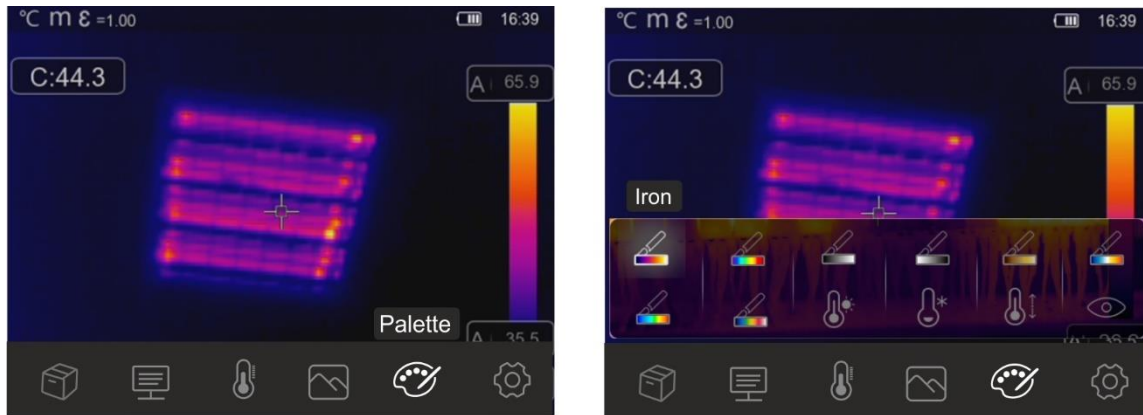

Fig. 39: Selection of color palettes and isotherm lines' functions
2. Touch the icon “” to enter the “Palette” menu. The screen in Fig. 39 – right side appears on the display.